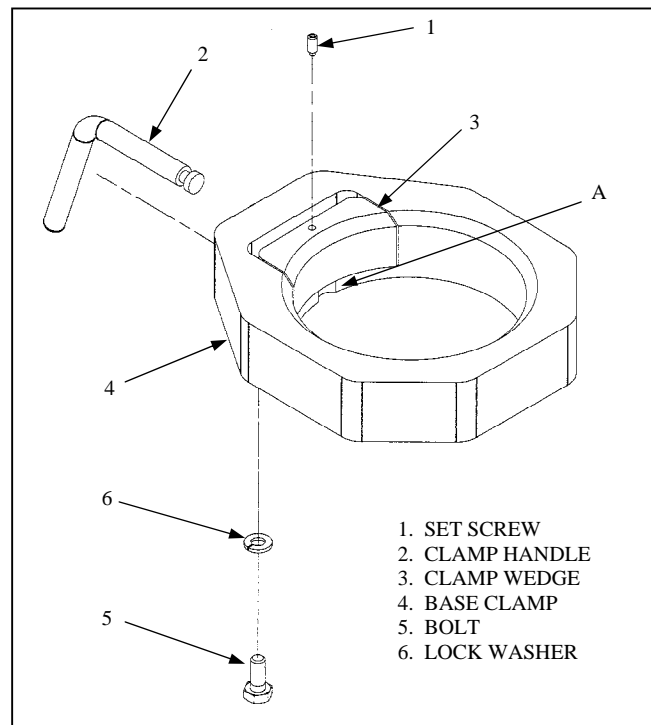

Figure 5-10. General Clamp Diagram
- When bottom edge of tube reaches clamp, lift firmly and rotate assembly slightly clockwise and counter-clockwise to guide alignment detent past alignment notch in clamp. See Figure 5-10, reference arrow A.
- Remove set screw (1), then remove clamp handle (2) to release clamp wedge (3). See Figure 5-10.
5.3.7.5 Base Clamp. The base clamp (4), is attached directly to the tank. See Figure 5-10.
- Lift entire funnel assembly by the largest telescoping section. When bottom edge of bottom telescoping section tube reaches the base clamp (4), lift firmly and rotate assembly slightly clockwise and counter-clockwise to guide alignment detent past alignment notch in base clamp (see reference arrow A).
- Remove bolts (5) and lock washers (6).